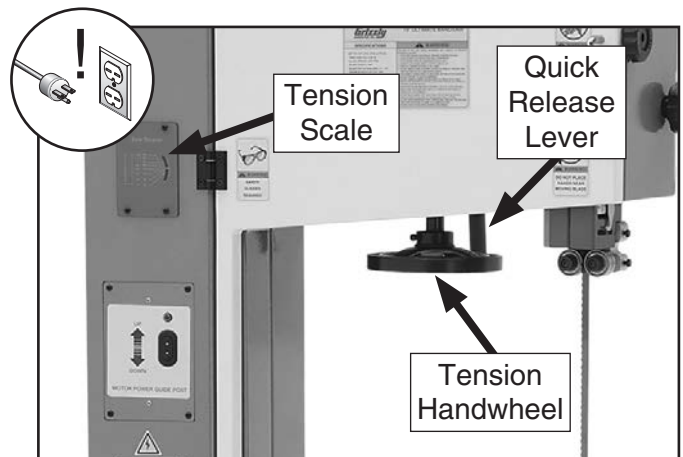

Figure 23. Blade tension controls.
4. Move the blade tension quick release lever all the way to the right (as viewed from the rear of the machine) to apply tension, then rotate the tension handwheel until the mark on the blade tension scale matches the one for the blade width (see **Figure 23**).